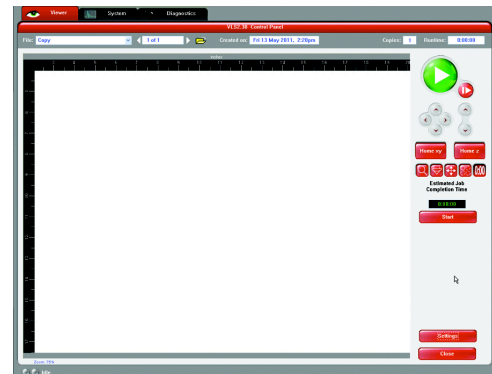

Figure 6
8. Launch the UCP by selecting the square red UCP icon on the taskbar and the current print job will appear in the Viewer Tab of the Universal Control Panel (Figure 6).
4. Press the green START button on the UCP to begin laser processing (Figure 6 on previous page).